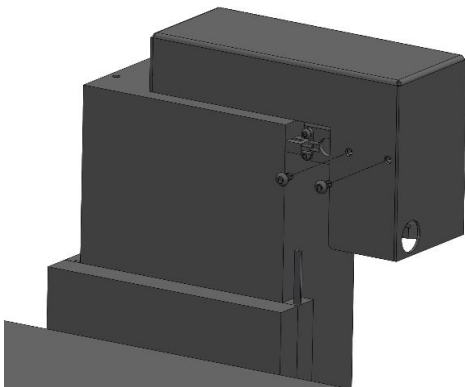

Fig. 7
10. In order to connect some cable to the laser we need to remove the cover head use the 2.5mm hex key.(see Fig. 7)